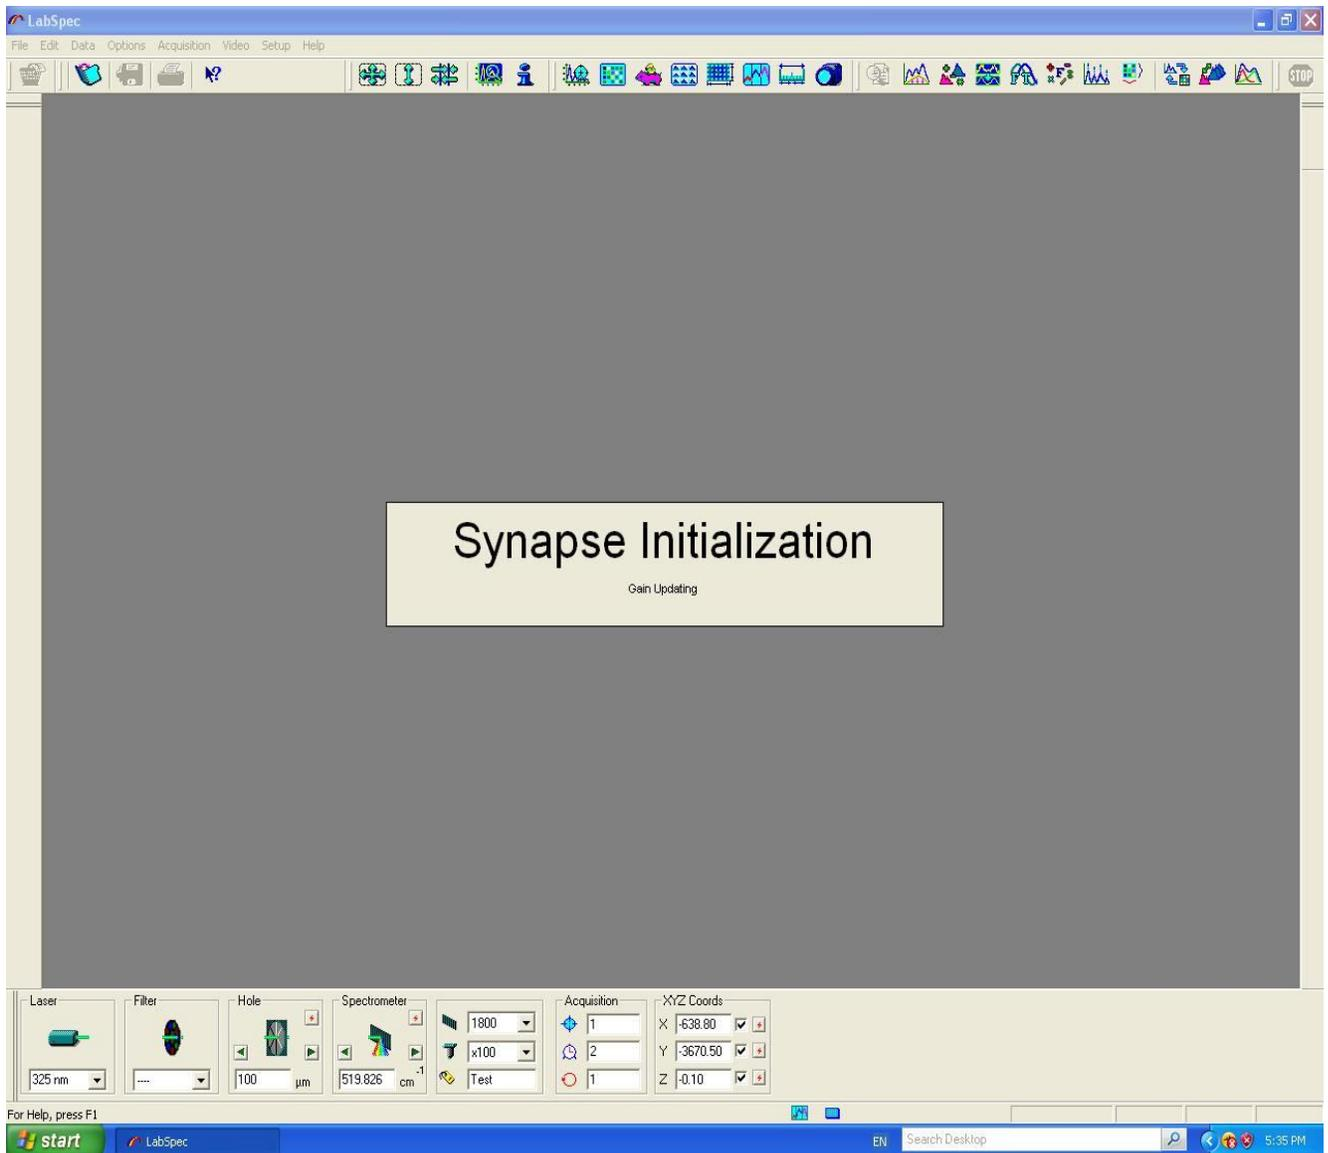

Fig.9 LabSPEC software interface
- 4.1. Open LabSpec5 and move the mouse for it to get initialized (which shows “Synapse Initialization (Gain Updating)” on window). (Fig.9)